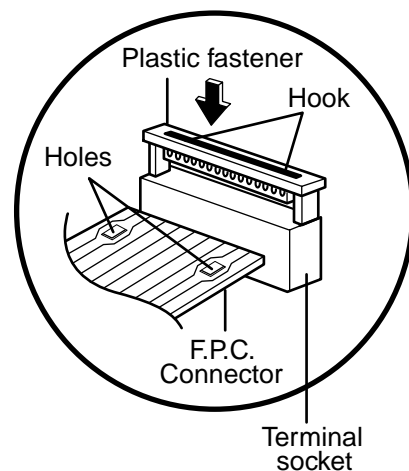

Figure 6
Follow the steps below as illustrated in Figures 6 and 7 to insert the F.P.C. connector.
- (1) Insert the F.P.C. connector into the terminal socket securely with the fingers.
- (2) Hold the plastic fastener with thumb and forefinger of the other hand, and push it slowly into the terminal socket. (Figure 6)
- (3) Lock the level of the plastic fastener into the hook of the terminal socket securely by releasing the fingers.